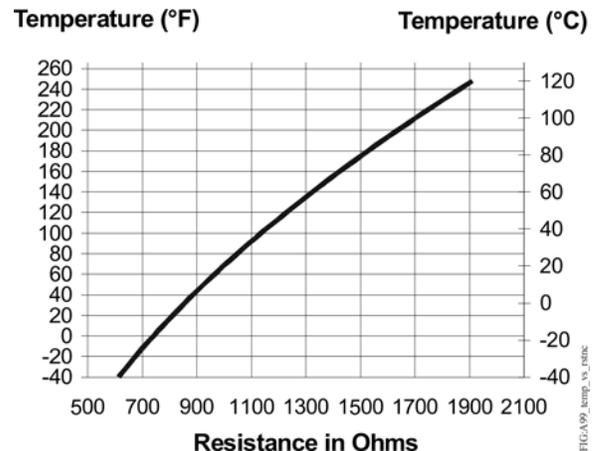

Figure 15: Temperature versus Sensor Resistance
- e. Consult Figure 15 to verify that the measured temperature and resistance conform to established temperature and resistance values.
- f. If the measured values conform to the values in Figure 15, proceed to Step 3.